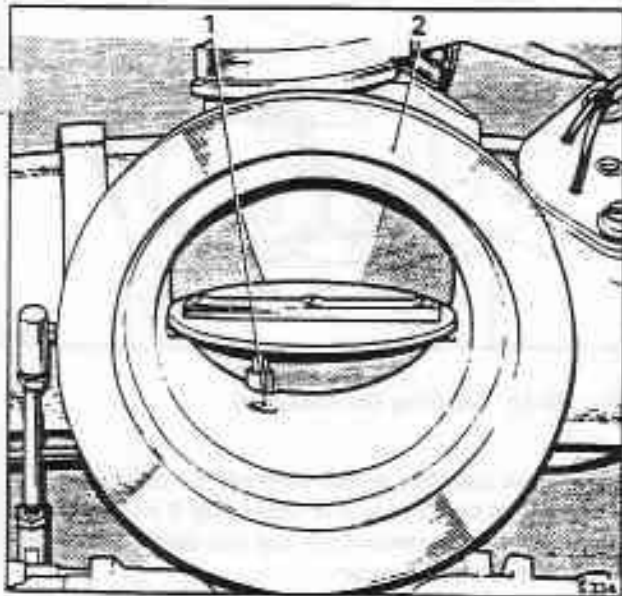

Fig. K5-11 Hot idle mixture compensator feed
3. Remove the air intake, blank off the hot idle compensator feed drilling (see fig. K5-11) and replace the intake.